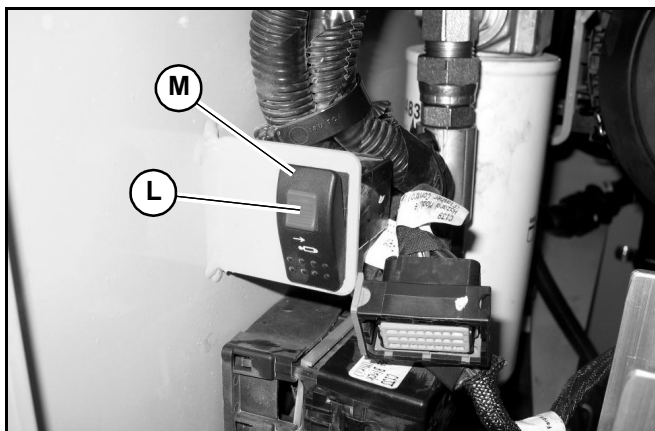

Fig. 104 – Track Tension Switch
2. With the machine running and the drive system not moving, open the engine compartment. Press and hold the lock button (L, Fig. 104) on the track tension service switch, and press the top (M) of the switch to set the track tension cylinders into the service (retracted) position.